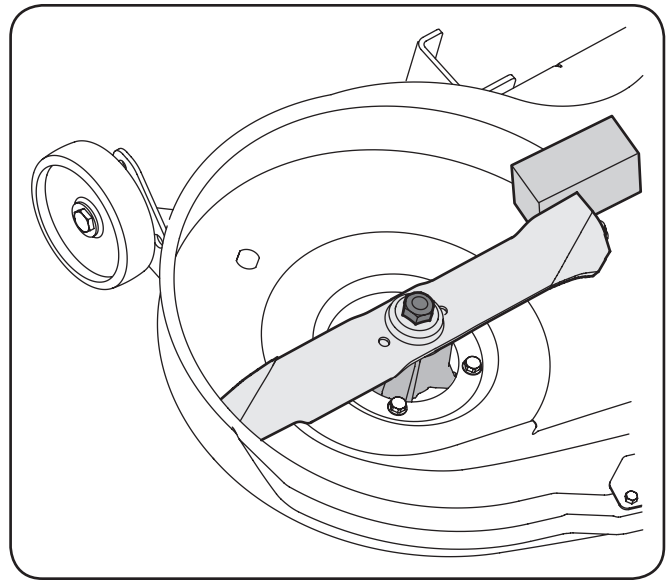

Figure 7-7
2. Place a block of wood between the center deck housing baffle and the cutting blade to act as a stabilizer. See Fig. 7-7.
3. Remove the hex flange nut that secures the blade to the spindle assembly. See Fig. 7-7.